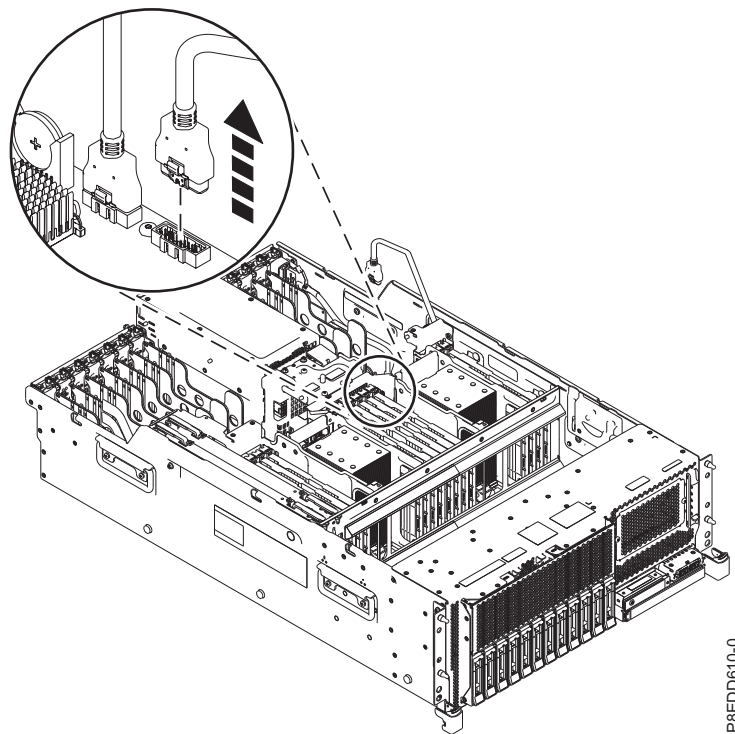

Figure 7. Disconnecting the front USB cable
14. Disconnect the front USB cable from the system backplane and route it over the side of the system and out of the way to provide clearance for removing the system backplane. See Figure 7.